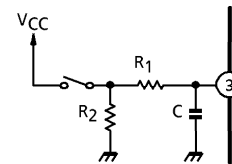

Fig.1 Mode switch circuit reducing a pop sound
1. MODE SW (pin③)
- It is necessary to connect an external pull-down resistor with the terminal of MODE SW (pin③), in case that this IC mode doesn't operate normally due to external noise etc.
It is advised to connect R1, R2 and C with the terminal of MODE SW (pin③), to reduce a pop sound is switchover between single IF mode and dual IF mode (see Fig.1). It is better that the constants are $R1 \cong R2 \cong 100k\Omega$, $C \cong 1\mu F$ at $V_{CC} = 1.2V$. As for the constants, select the optimum one depending on each a set carefully.